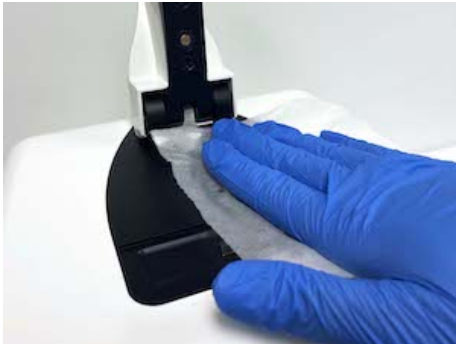

Figure 6.
2. Wipe down the black metal surface on the top of the instrument and the lower sample surface (Figure 6).